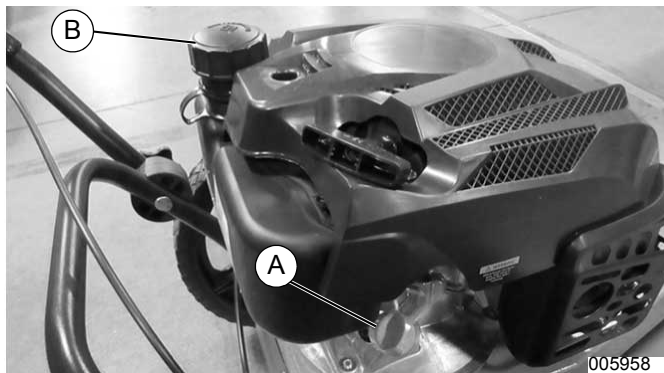

Figure 4-14. Changing the Oil
2. See Figure 4-14. Remove oil cap/dipstick (A).
4. Verify fuel filler cap (B) is securely tightened.